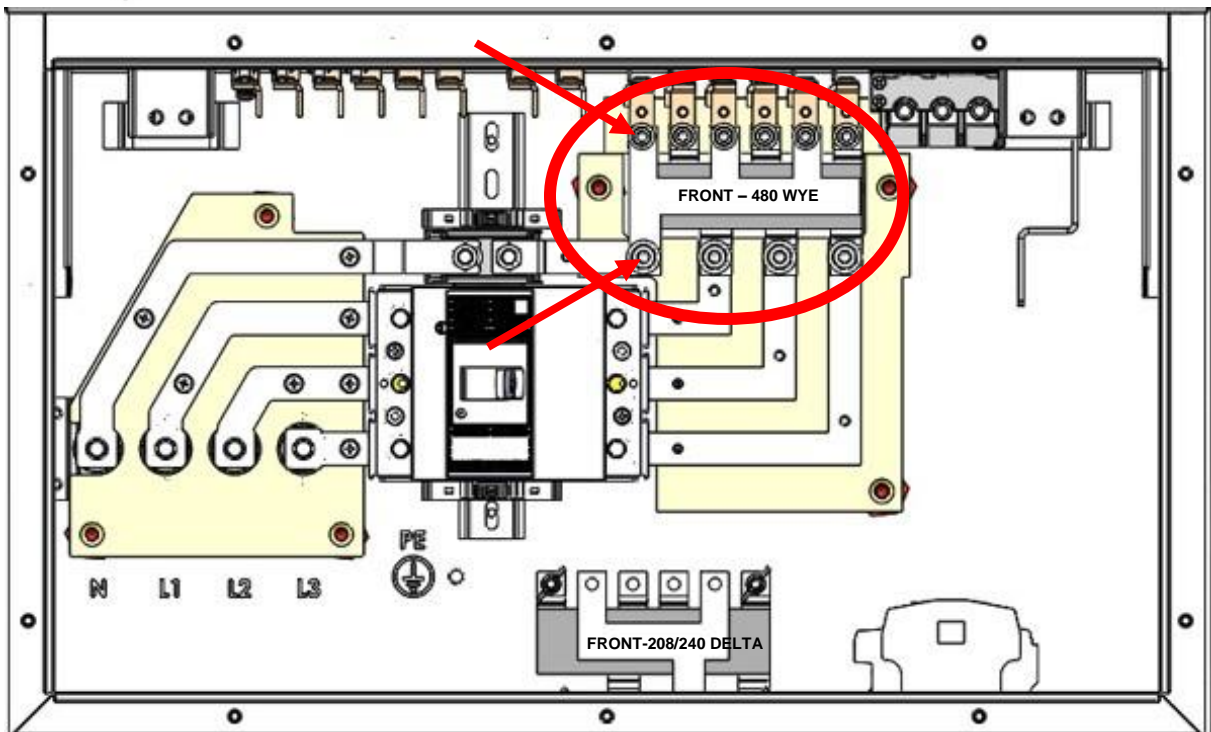

**Figure 26 – Removing FRONT – 480 WYE Configuration Bus Bar;
6. Remove wing nuts anchoring configuration bus bars together in the lower back of charger, select the one needed for this installation (like the 480 Wye example shown in Figure 26), and re-anchor the two spare configuration bus bars in their original shipping/storage location.